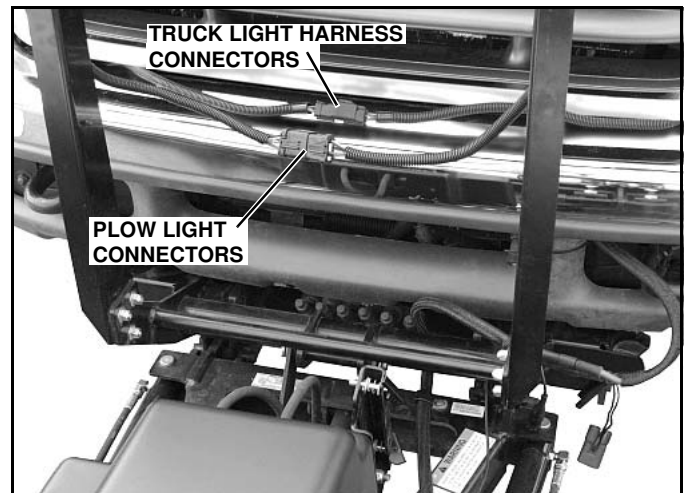

Figure 1-33
3. To prevent corrosion on the contacts, plug the male and female connectors on the plow together. (See Figure 1-33)
4. To make the truck lights operable, plug the male and female connectors on the truck light harness together. (See Figure 1-33)